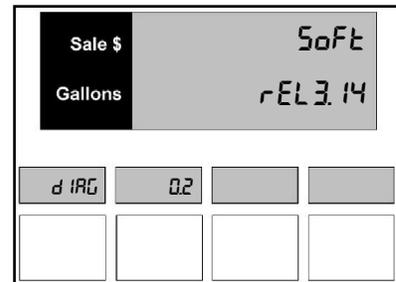

Figure D.0.2 – Software Release
2. The current level of software installed in the dispenser will be displayed as shown in *Figure D.0.2*. **Note:** Software levels will change from version to version.